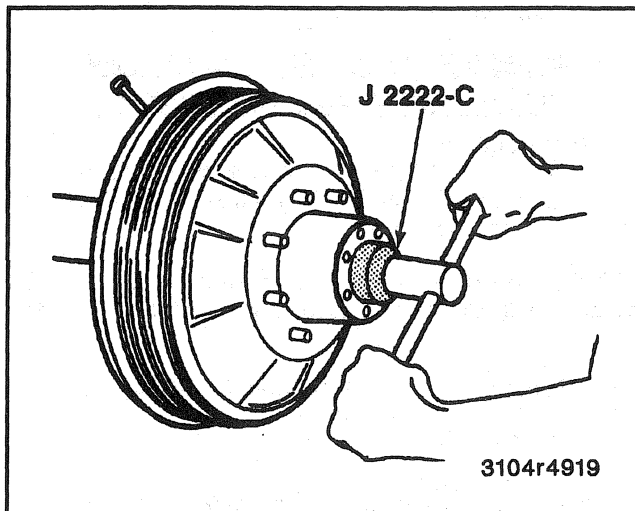

Figure 28—Removing or Installing Bearing Adjusting Nut
3. Nut using J 2222-C, or retaining ring. Refer to Figure 28.
5. Adjusting nut. Refer to Figure 28.
3. Adjusting nut. Refer to Figure 28.